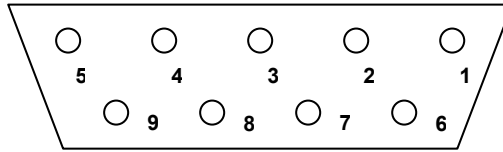

Figure 5: RS485 connector, DB9 – Male
- On the left side is accessible the DB-9 shell connector for connecting the RS485 line to the Ducati analyzers (see **Figure 5**). Included in the package is an interface D-shell connector with some cable, for easy accessing the A,G,B wires for RS485.